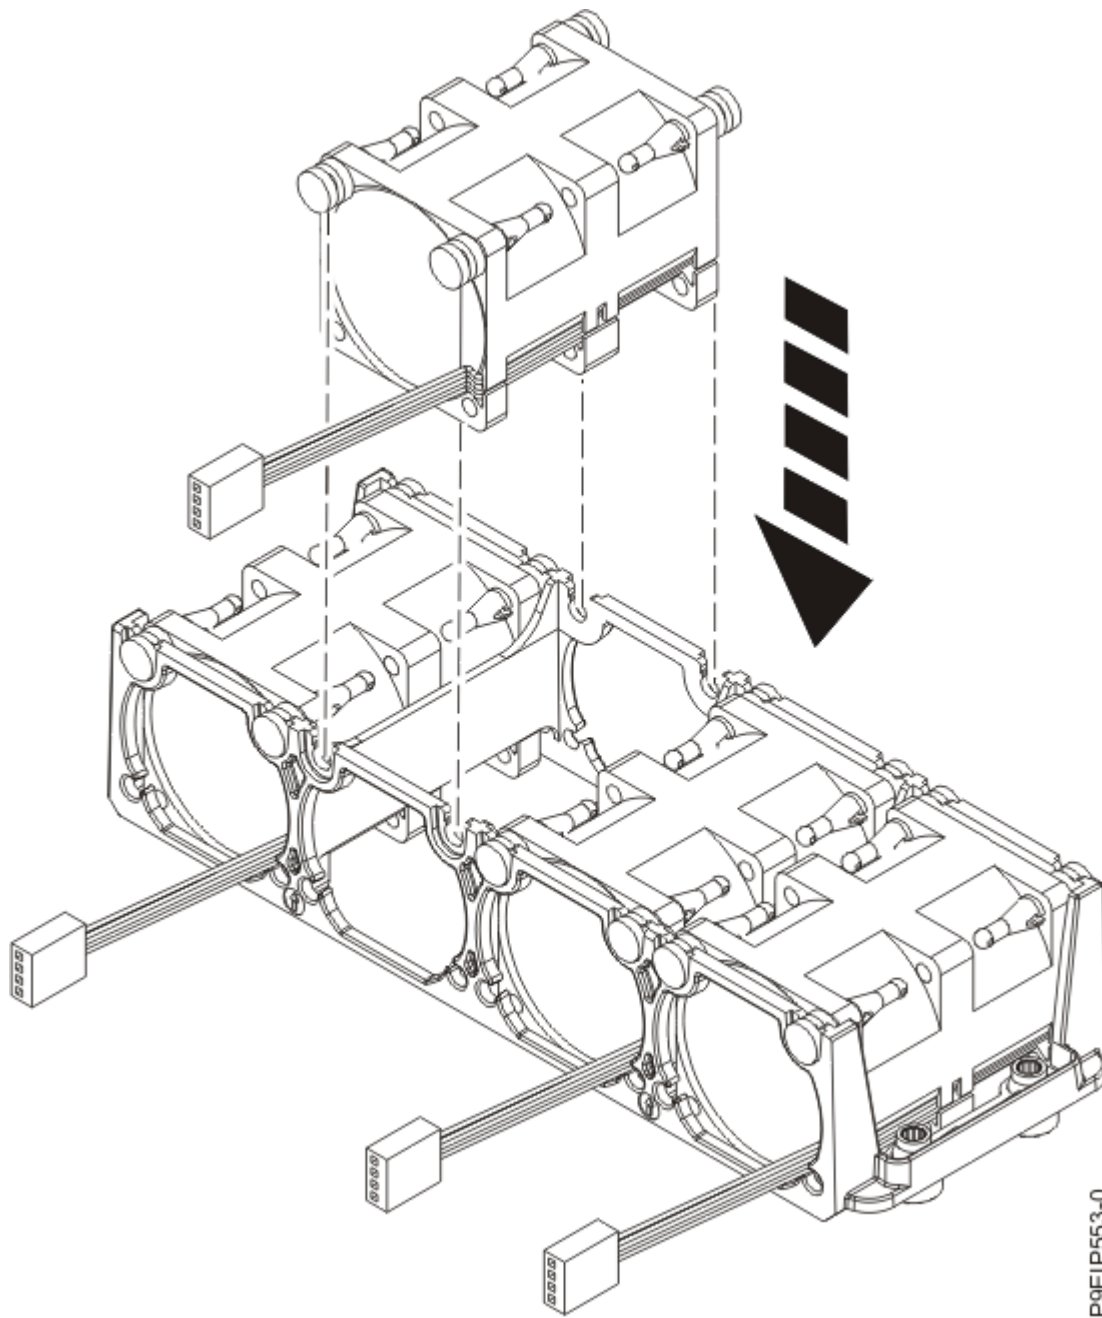

Figure 16. Replacing a fan
2. With the fan holder lifted, push the fan into the housing as shown in Figure 16 on page 23. Align the standoffs in the fan with the slots in the fan holder.